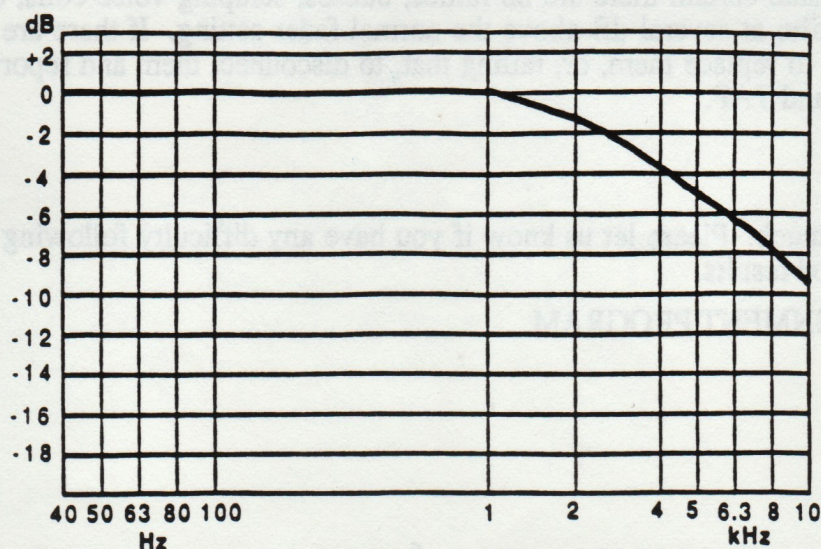

Figure 1 - A-Chain Frequency Response Characteristic for Mono Theatres
8. If you have a spectrum analyzer available, play the Pink Noise side of Dolby® Cat. No. 69 test film, and adjust the preamplifier hf controls for the response shown in Fig. 1, A-Chain characteristic.